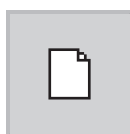

Fig. 2
2. This will open the "Open" window (Figure 2). From this window, select the directory that corresponds with the display model and choose any of the given messages that are pre-programmed.